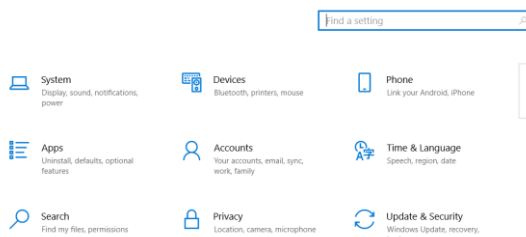

Fig.2
3. Select Network and Internet (Fig.2)